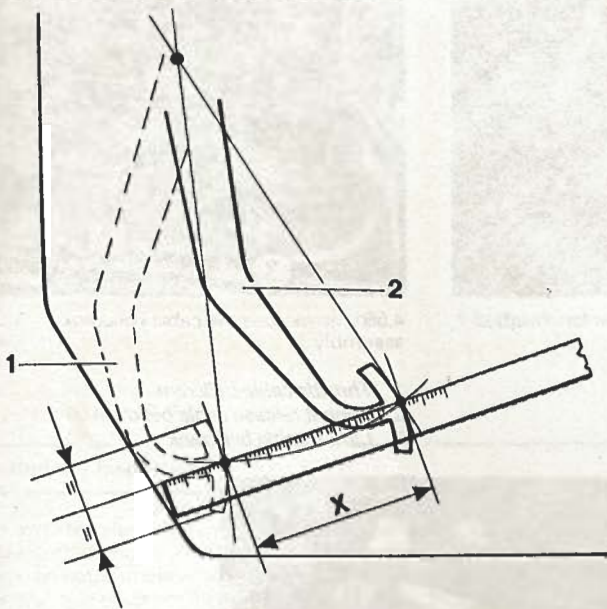

Fig. 5.1 Clutch cable adjustment (Sec 3)
- Using a suitable rule, measure the pedal travel at the centre-line of the pedal pad, between the end-of-travel position (pedal touching the footwell panel) and the rest position - see Fig. 5.1. Alternatively, the end of travel and rest positions can be marked on a suitable straight-edged piece of wood or metal, and the distance between the marks can then be measured using a rule to ascertain the pedal travel.